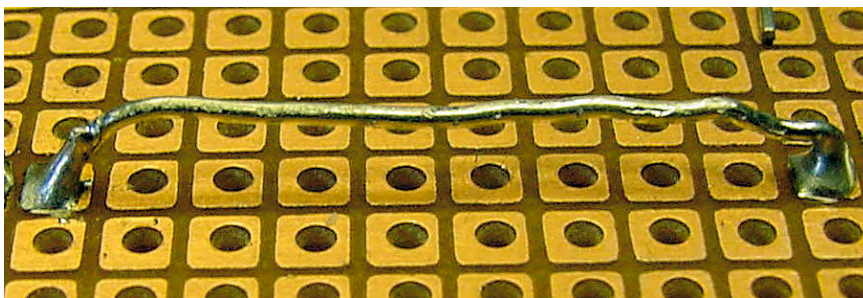

Figure 23-13. Underside of breadboard showing long bare wire to provide a distribution bus that can accommodate many connections of wire
12. Back on the underside, make a long stretch with the bare wire (see Figure 23-13) and solder in place.